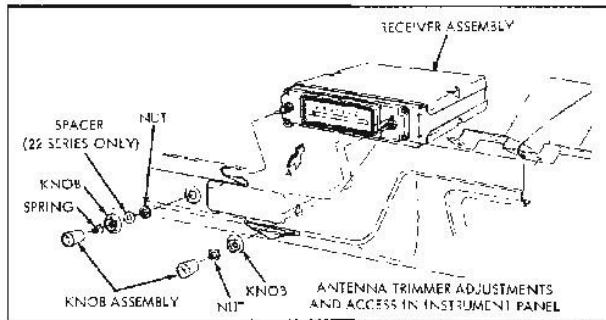

Fig. 12-8 Tempest Radio - Front View - Reference Illustration
**RADIO—REMOVE AND REPLACE (Fig. 12-8 and 12-9)**